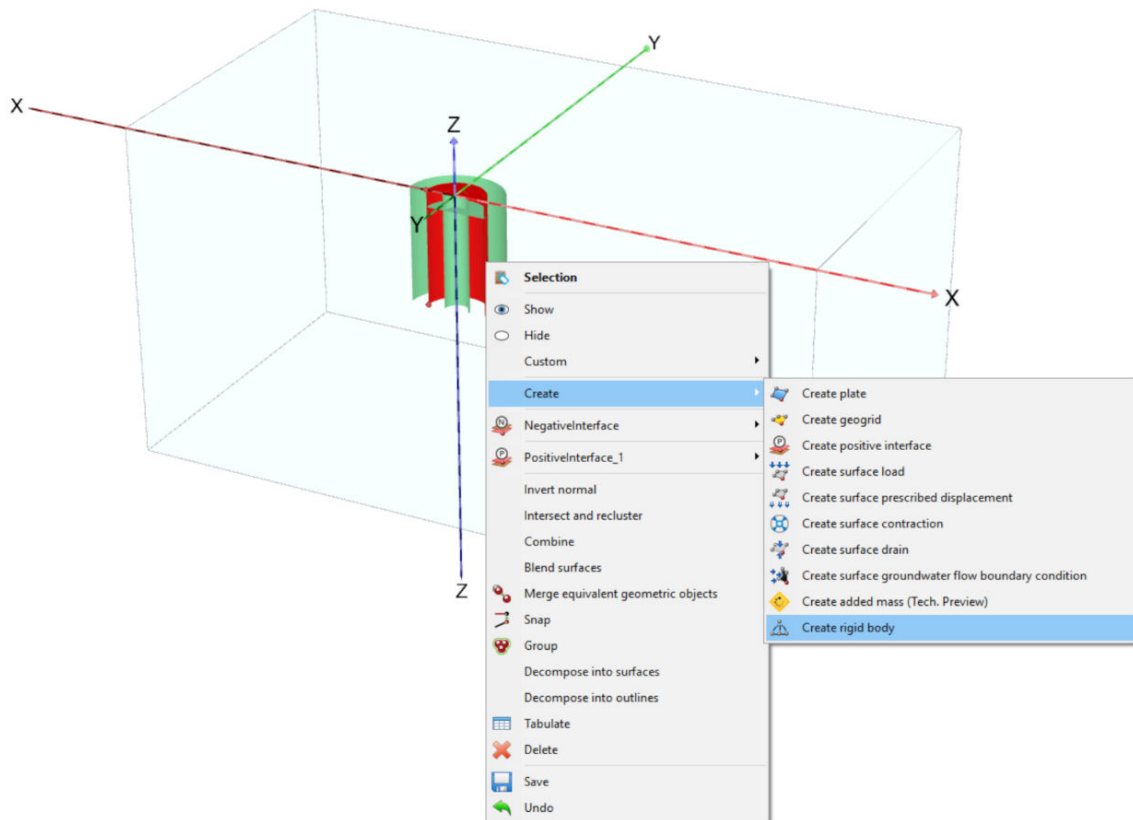

Figure 45: Rigid body creation
14. Multi-select the top and the curved surface. Right-click on the selected surfaces and select the option **Create** > **Create rigid body** from the appearing menu (see Figure 45 (on page 67)).